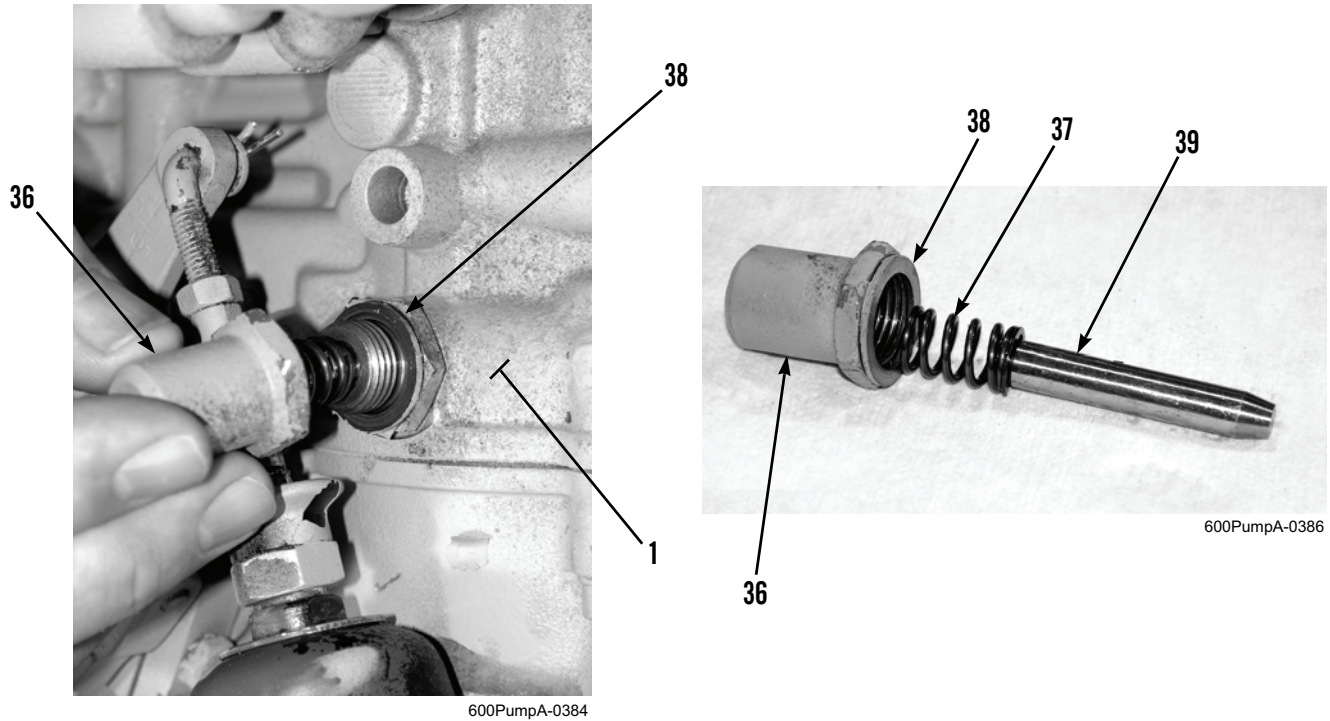

Figure 28. Removing Positioning Pin.
2. Remove bolt sleeve (Figure 28, Item 36), copper sealing ring (Figure 28, Item 38), compression spring (Figure 28, Item 37), and positioning pin (Figure 28, Item 39) from fuel injection pump (Figure 28, Item 1).